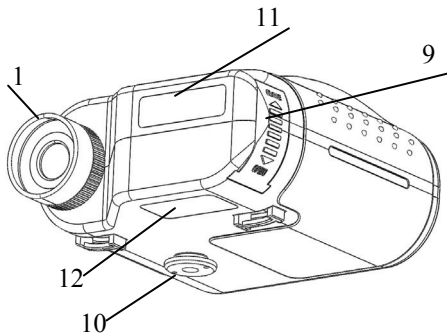

Fig.2. Rear view
- Slide the battery compartment cover down (9, Fig. 2)